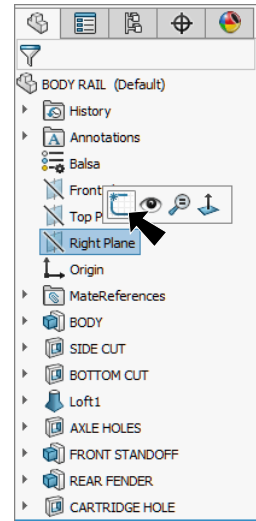

Fig. 101
Step 1. Click **Right Plane**  in the Feature Manager and click **Sketch**  on the context toolbar, **Fig. 101**.